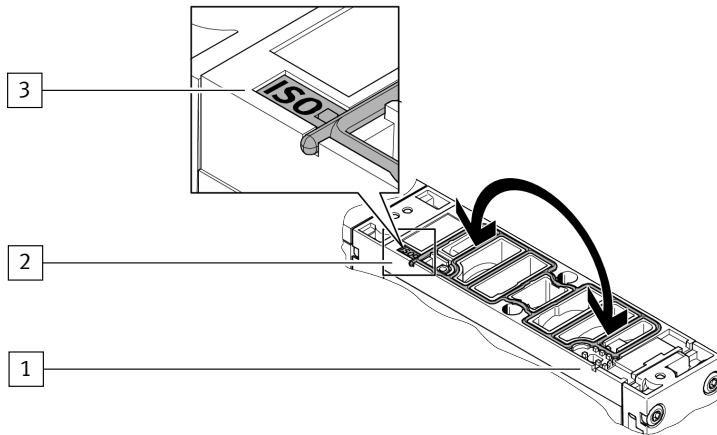

Fig. 12: Position of the valve seal (here: correct position for unducted pilot exhaust air)
6. Make sure that the “ISO” marking for unducted pilot exhaust air is visible on the inserted seal → Fig. 12.
If the “ISO” marking is visible: re-insert the seal → Fig. 12, [3].